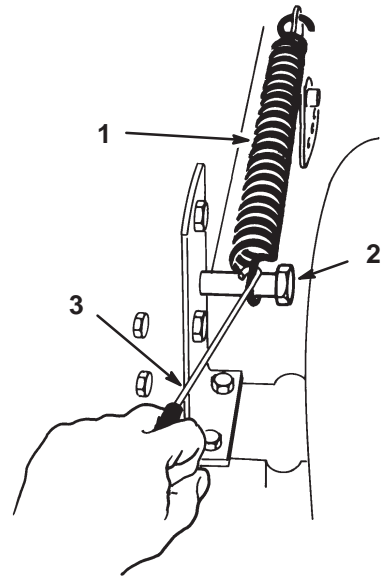

Figure 7
- 6. Remove the lift assist spring between the mower right side lift bracket and the retaining bolt (Fig. 7) Use the spring tool provided with the machine.